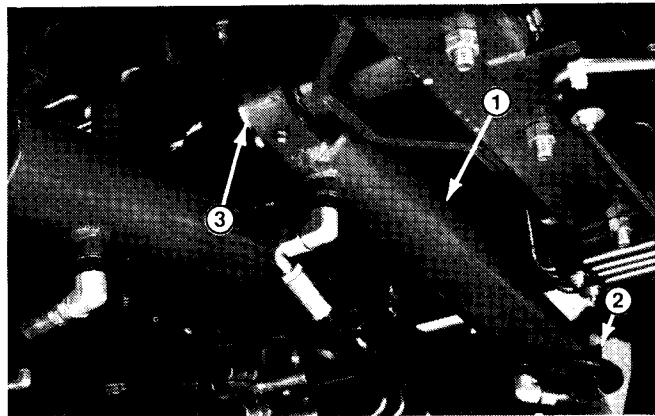

Figure 43
3. Remove nut and bolt securing rod end of cylinder to lift arm (Fig. 43). Remove cotter pin securing barrel end of cylinder to frame.